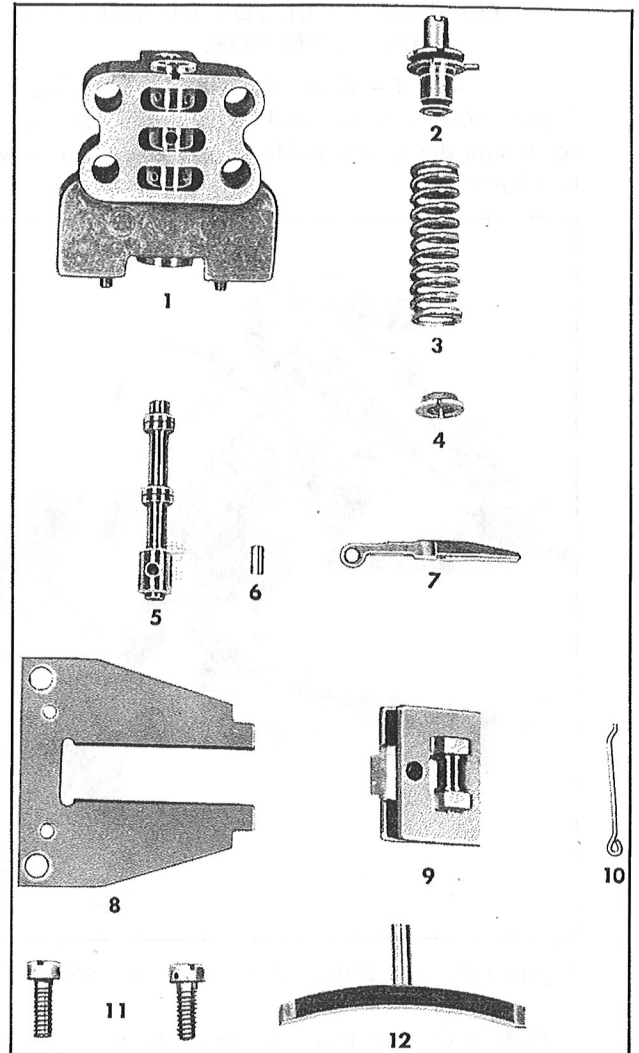

Figure 194—Exploded View of Governor
*Step 3.*—Release the spring clamp and remove the spring, spring guide and adjusting screw assembly. See Figure 194.